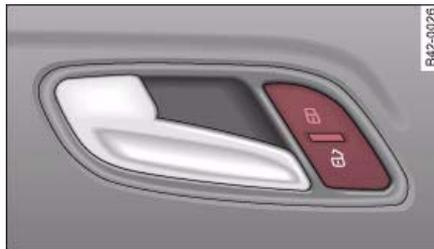

Fig. 37 Detail of the driver's door: Central locking switch
- Press the upper switch ⇒ fig. 37 ⇒ .